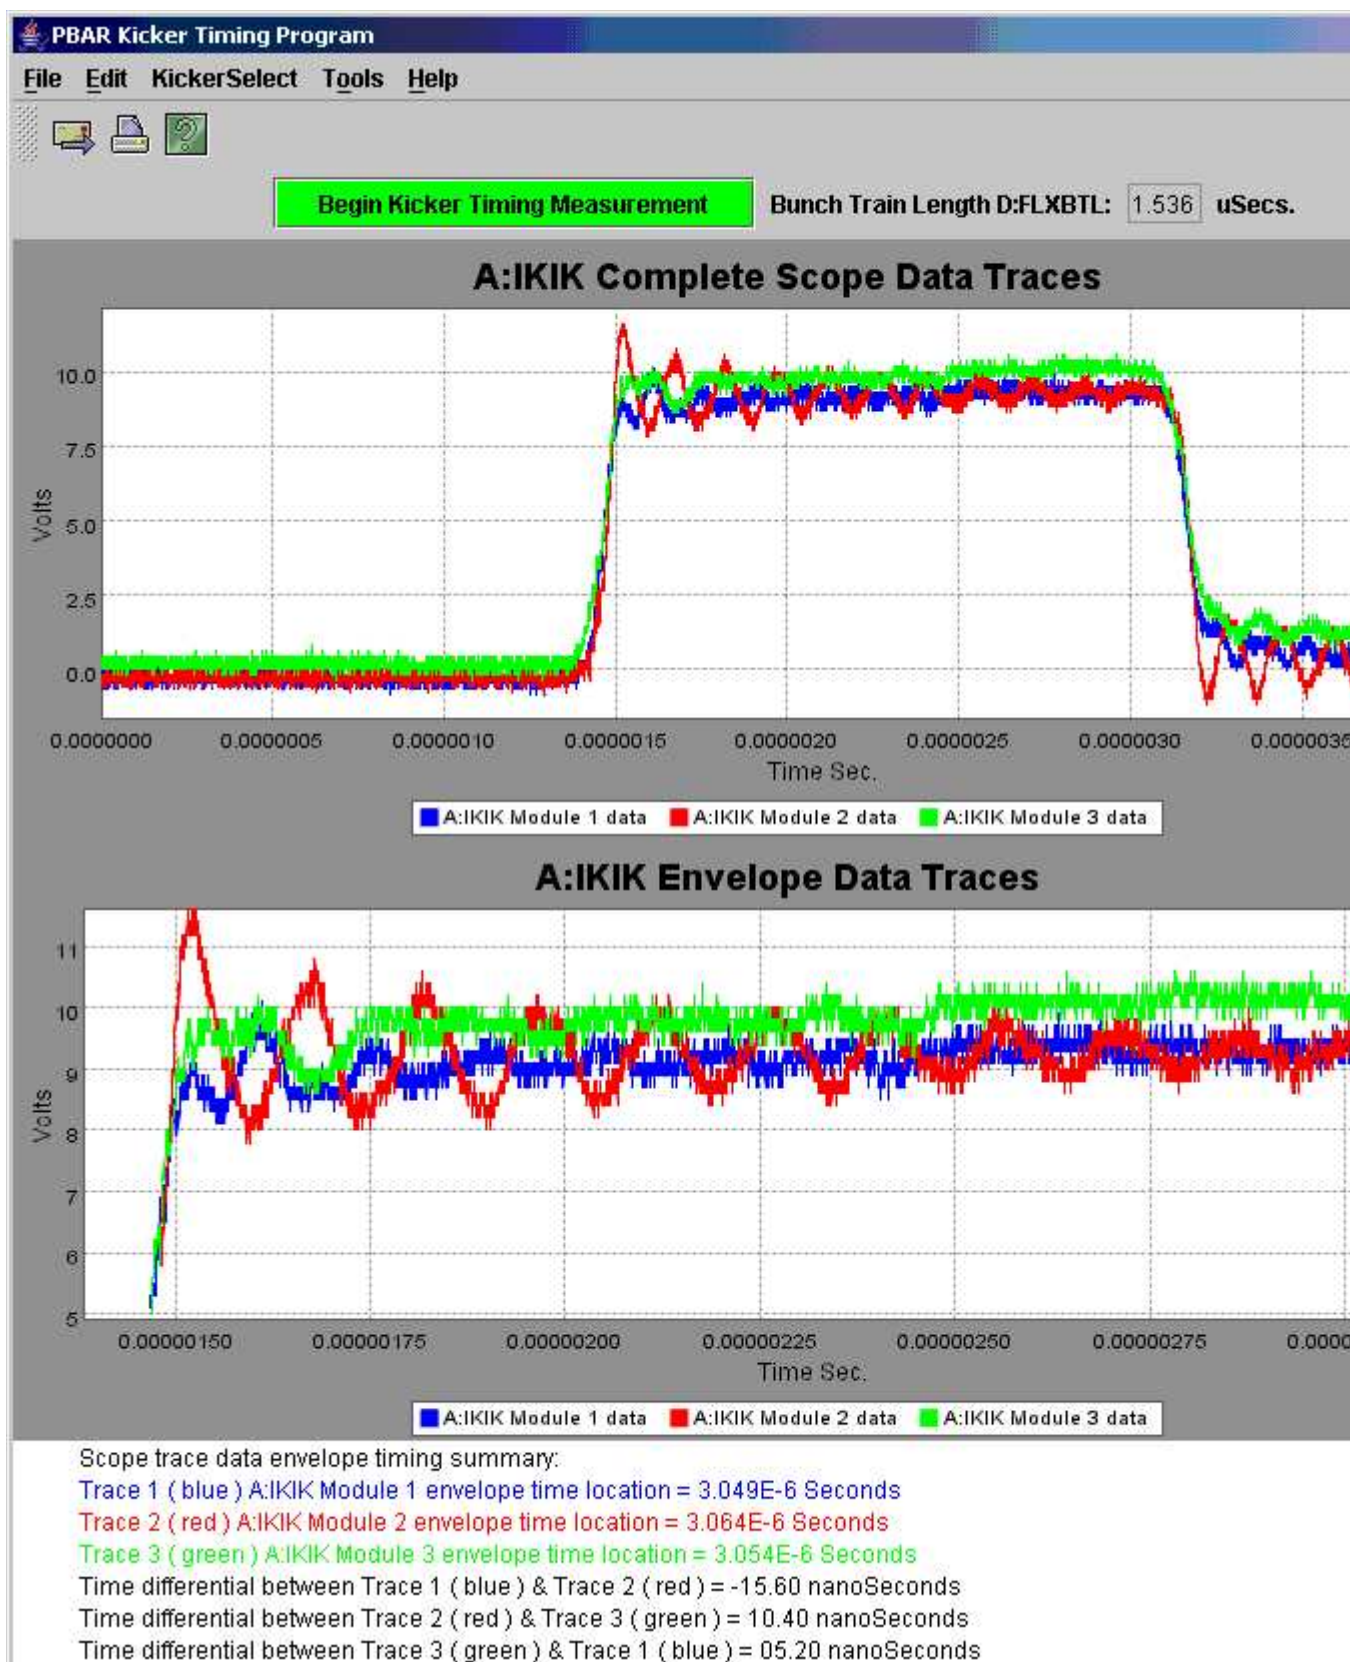

Figure 35: The Pbar Kicker Timing Program shows the Debuncher Extraction Kicker scope traces.
15. Examine the Pbar Kicker Timing application (see Figure 35) to see if the kicker trace alignment is converging. Click on the green box that is labeled "Begin Kicker Timing Measurement."